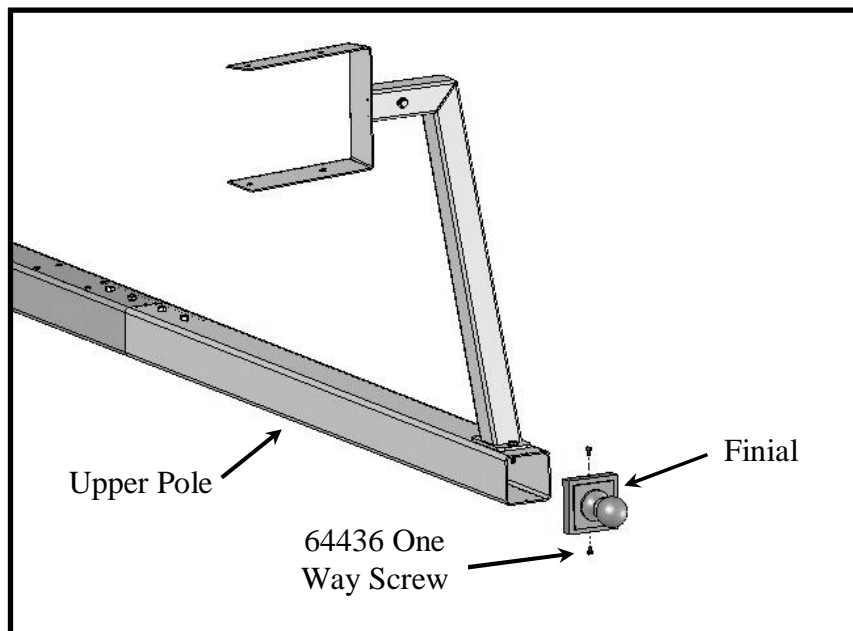

Figure 44 – Install Finial
- g) Place the finial on top of the pole aligning the holes and fasten in place with (2) 64436 one way screws. *See Figure 44.*